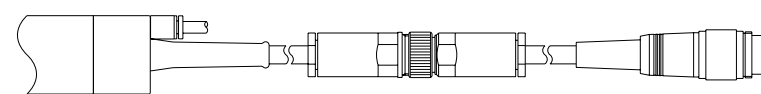

Fig. 1 Quick Disconnect Cord (EM25N - 5000 - J4 / J5 / J8)
- A quick disconnect cord is available for easy Brushless Motor removal (Fig. 1).